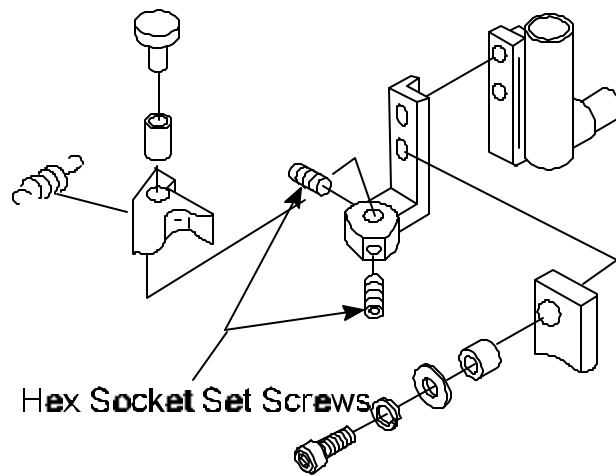

Figure 7
13. **Replace** and **Position** Take-Up Lever to Take-Up Lever Stocker. See *Figure 7*.
18. **Using** a 2 mm Allen Wrench, **tighten** 2 hex socket screws to secure Needle Bar Driver on Needle Bar Driver Fixing Base. *See Figure 7.*